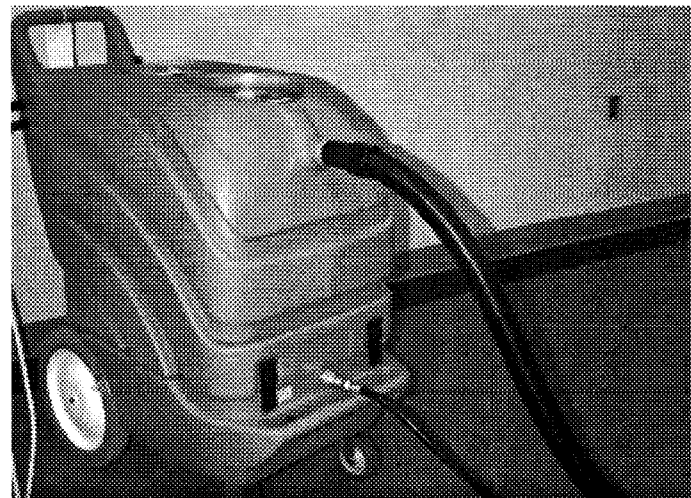

Fig. 4
4. Attach vacuum and solution hoses to front of machine and then to accessory tool. (Figure 4)